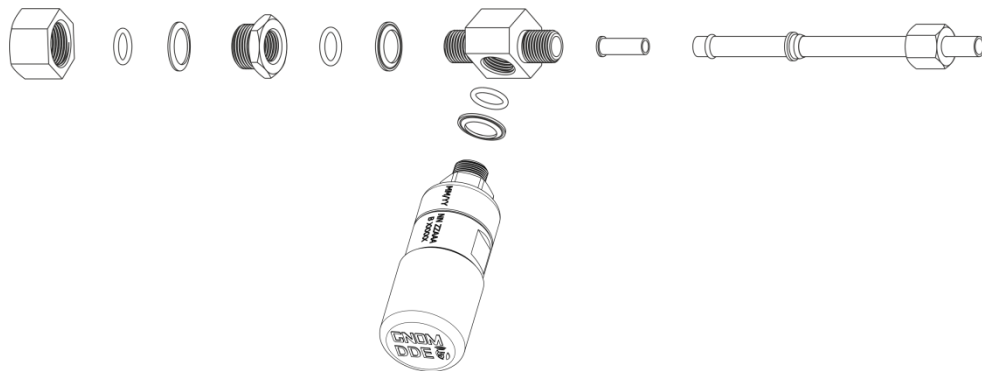

Figure 16 — Procedure for GNOM DDE S7 mounting, according to Mounting scheme 2
- 4) You may mount GNOM DDE S7 into the hole M22x1.5, with the extension of the compressed air system, in accordance with **Mounting scheme 2** (see figure 16).